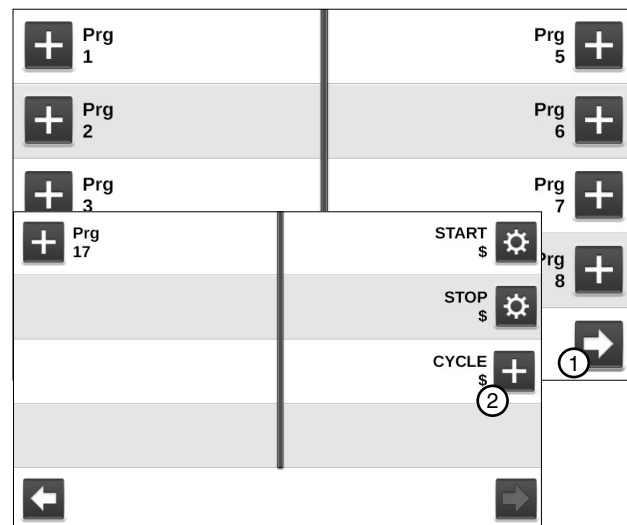

Figure 138-2 Step Programs Screen
1. Push **Menu**, **Programs**, and **Step Programs** to view the Step Programs screen. Refer to Figure 138-2.